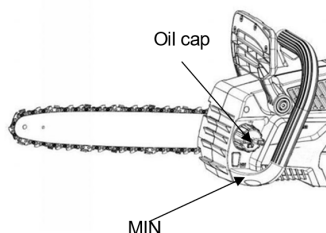

Fig. 2
1. Unscrew the oil cap. (Fig.2)
2. Fill the oil tank with chain oil. The oil level should be above "MIN" limit. (Fig.2)